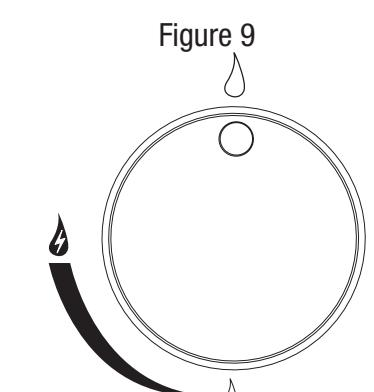

Figure 9
3. Control knob must be in the Δ (OFF) position. (Figure 9)